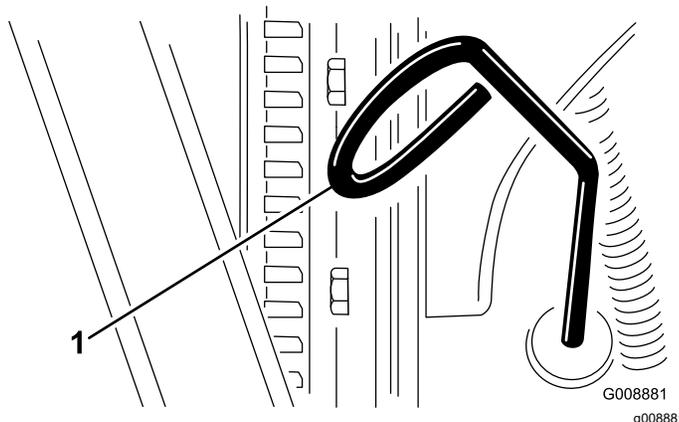

Figure 59
3. Remove the dipstick, wipe it clean, and install it (Figure 59).